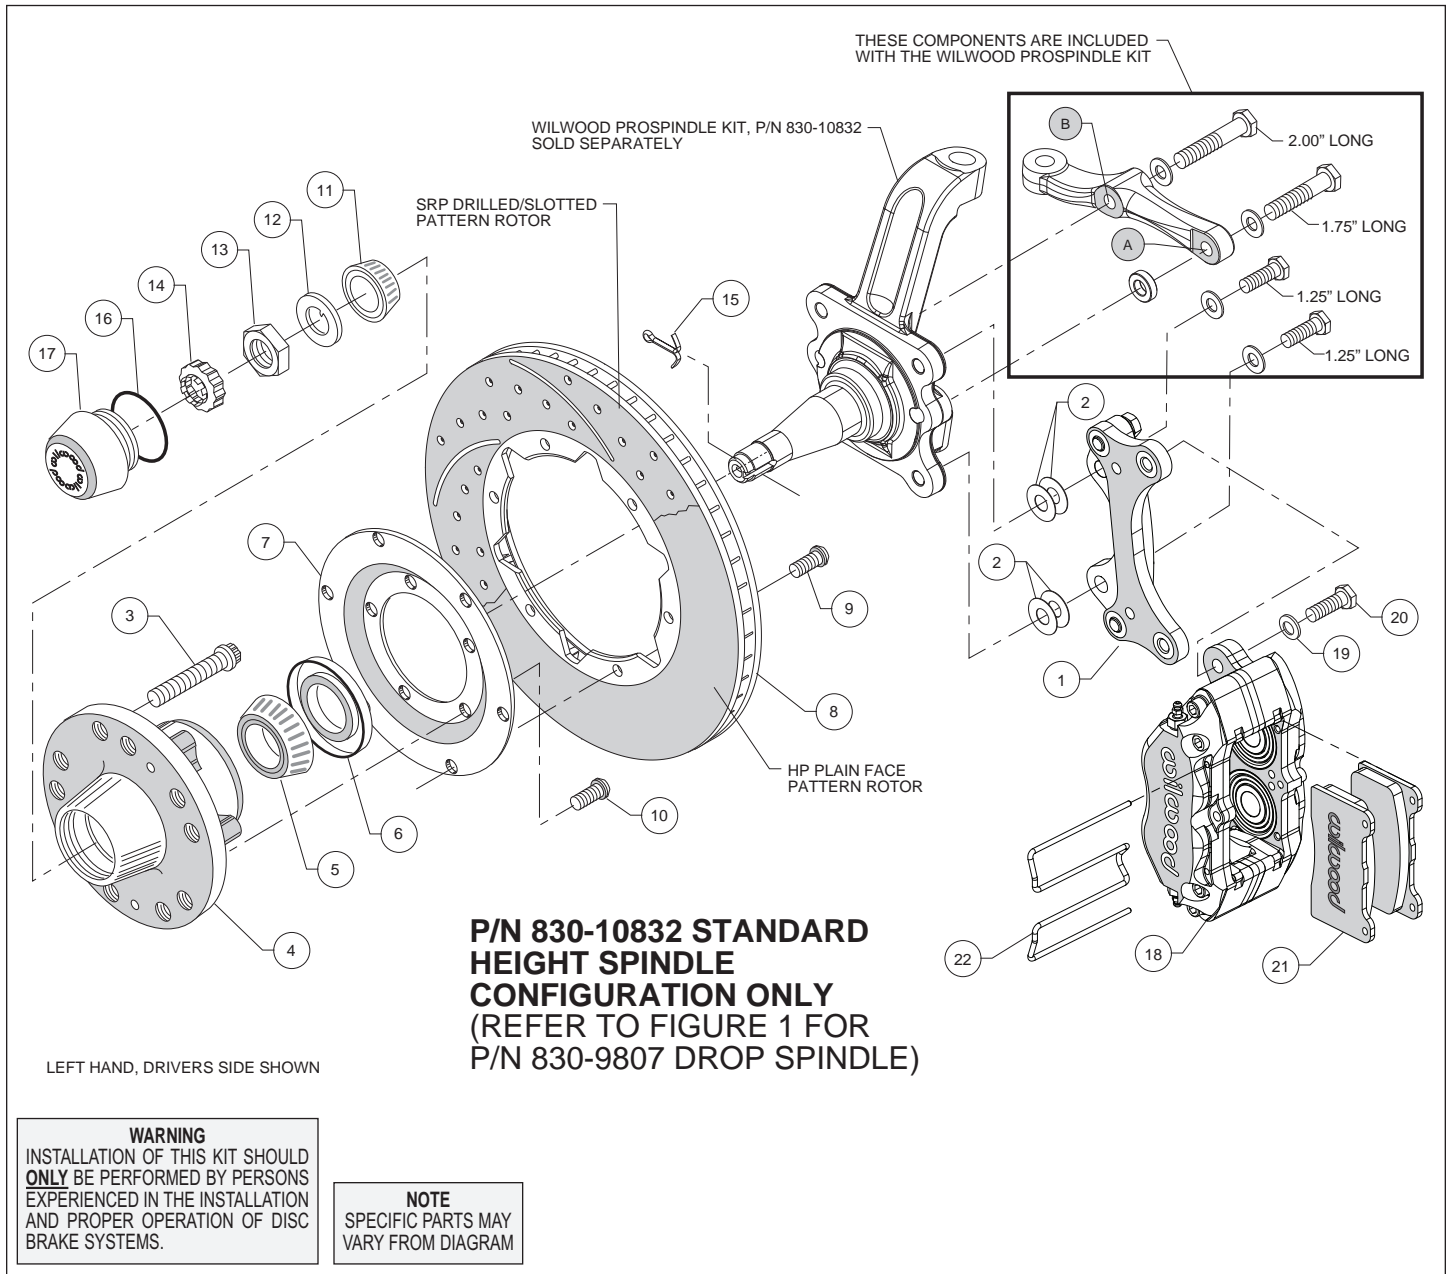

Figure 2. Installation Configuration For Standard Height Spindle, P/N 830-10832
**For Standard Height ProSpindle (P/N 830-10832):** The caliper bracket assembly (1) should initially be installed with clean, dry threads on the mounting bolts.
- Orient the bracket as shown in Figure 2 and Photo 2. Install using 1.25" long bolts and .06" thick washers (from ProSpindle kit), and two .016" thick shims (2) on each bolt between the bracket and spindle, Figure 2. Temporarily tighten mounting bolts. **NOTE:** *The bracket must fit squarely against the mounting points on the spindle.* Inspect for interference from casting irregularities, machining ridges, burrs, etc. Later, after the caliper alignment has been checked, the mount bolts will be secured using red *Loctite*® 271.
- Orient the steering arm, and identify the hole marked 'A', as shown in Figure 2. Install using 1.75" long bolt, .06" thick washer, and .30" thick spacer (all from ProSpindle kit), Figure 2.
- Finish attaching the steering arm through the hole marked 'B', as shown in Figure 2. Install using 2.00" long bolt and .06" thick washer (from ProSpindle kit), Figure 2.